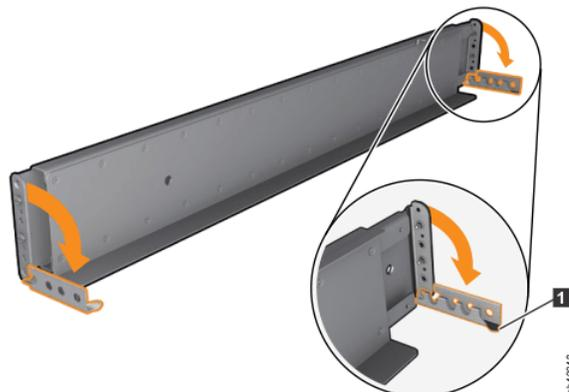

Figure 111. Opening the hinge brackets
6. At each end of the rail, grasp the tab **1** and pull *firmly* to open the hinge bracket (see Figure 111 on page 175).